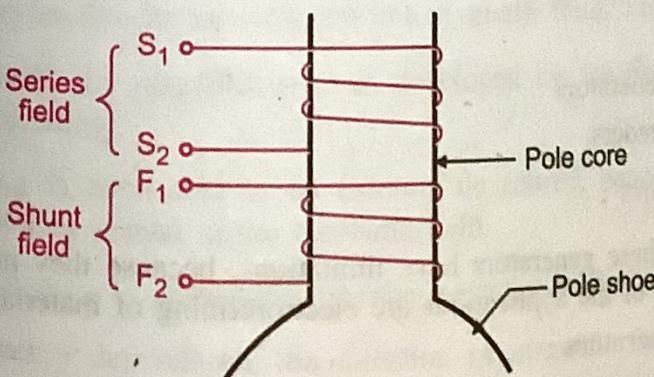

Fig. 7.8.8(a) : Series and shunt field windings are wound on the same pole core
The series and shunt field windings are wound independently on each pole core as shown in Fig. 7.8.8(a).
- The magnetic flux produced by these windings can either assist each other (Fig. 7.8.8(b)) or oppose each other (Fig. 7.8.8(c)).